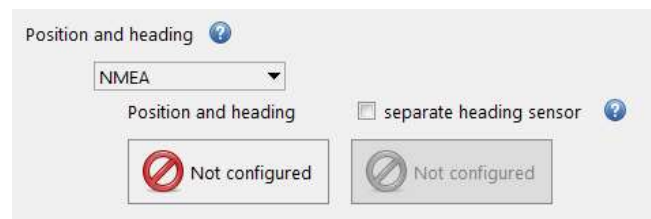

Figure 39. Navigation Interfacing
4. In the Position and heading options, select **NMEA** or **GreenSea Navigation** from the dropdown menu (Figure 39). Enabling GreenSea navigation disables the serial ports.